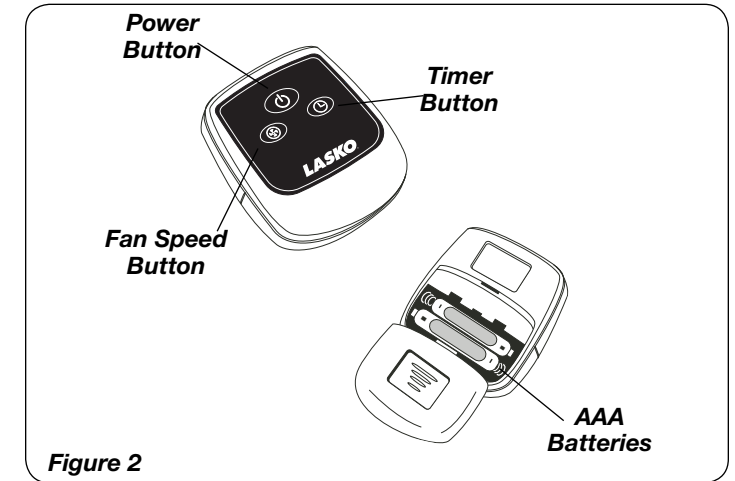

Figure 2
All the functions performed with the Remote Control work identically to the manual controls. (Figure 2)
1. Install batteries supplied as shown in Figure 2. The battery is type "AAA".